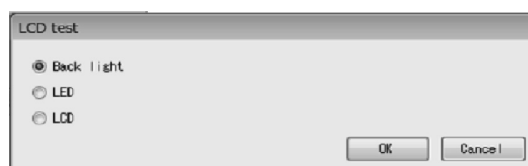

Fig.109
- ⑤ Click the "OK" button to return to the window from before the check, and then click the "Cancel" button to close the window. Clicking "OK" here will start the transmitter internal state check over again.
- ① Click on "Diagnosis/Service (T)" > "Test/Status" > "Self diagnosis" > LCD test" in the menu.
② The following window will be displayed (Fig. 109). This will test the LCD.